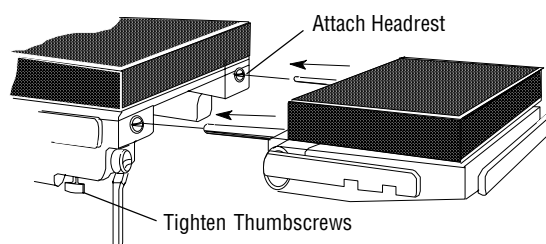

Figure 3-7. Attach Headrest
1. Determine desired patient orientation and attach headrest to the appropriate end of the table. Attach headrest as follows (see Figure 3-7).